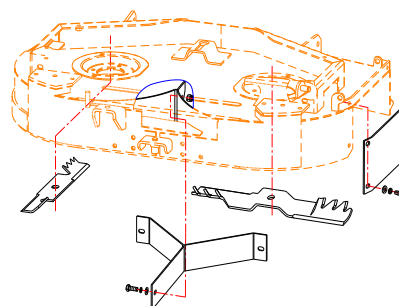

FIG 3
- **Mulching Blade Assembly (AS32008):** see FIG3.